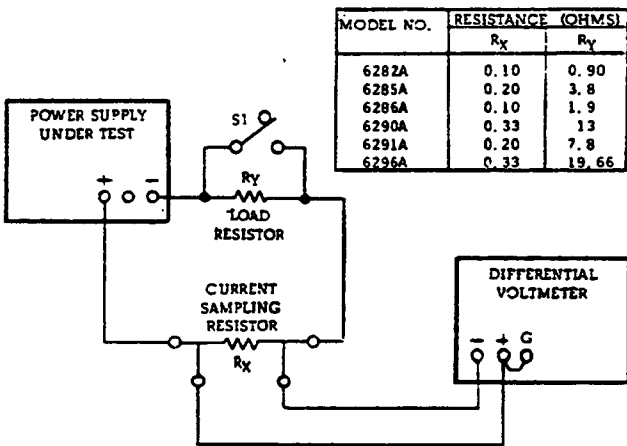

Figure 5-4. Output Current Test Setup
- Connect test setup shown in Figure 5-4, leaving switch S1 open.
- Connect test setup shown in Figure 5-4.
- Utilize test setup shown in Figure 5-4 leaving switch S1 open throughout test.
- Use test setup shown in Figure 5-4, except connect AC voltmeter across sampling resistor instead of differential voltmeter.